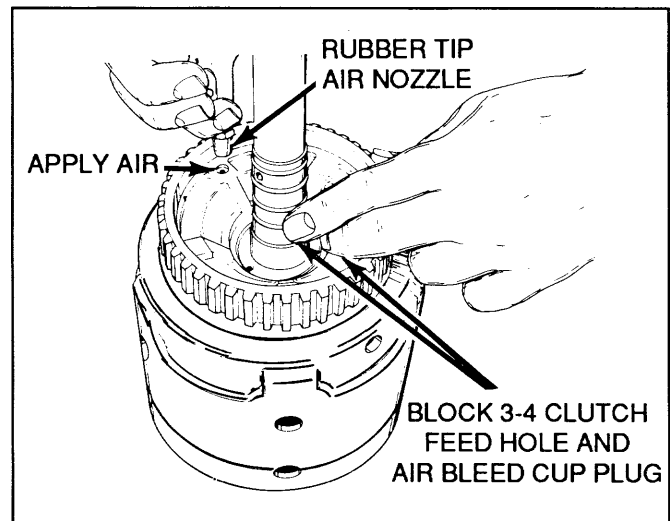

Figure 18. 3-4 Clutch Test
1. Air-test the 3-4 clutch by blocking the air bleed orifice cup plug with your middle finger, and the oil hole on the turbine shaft with your index finger (Figure 18).